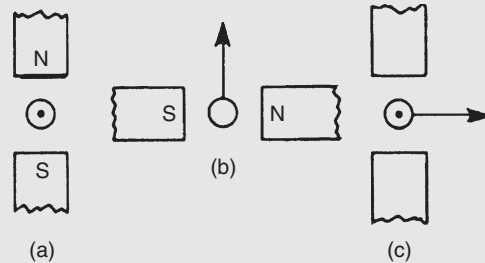
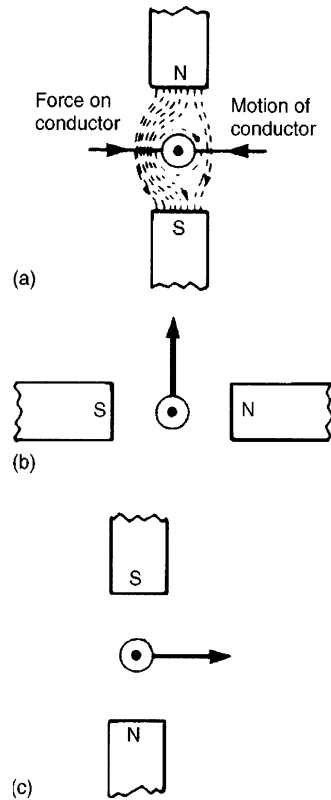

Figure 9.4
Figure 9.5
**Problem 5.** The diagrams shown in Fig. 9.4 represents the generation of e.m.f.s. Determine (i) the direction in which the conductor has to be moved in Fig. 9.4(a), (ii) the direction of the induced e.m.f. in Fig. 9.4(b), (iii) the polarity of the magnetic system in Fig. 9.4(c).
- (i) Using Lenz's law: The field due to the magnet and the field due to the current-carrying conductor are shown in Fig. 9.5(a) and are seen to reinforce to the left of the conductor. Hence the force on the conductor is to the right. However, Lenz's law states that the direction of the induced e.m.f. is always such as to oppose the effect producing it. **Thus the conductor will have to be moved to the left.**
i.e. **towards the viewer or out of the paper**, as shown in Fig. 9.5(b)
- (iii) The polarity of the magnetic system of Fig. 9.4(c) is shown in Fig. 9.5(c) and is obtained using Fleming's right-hand rule.